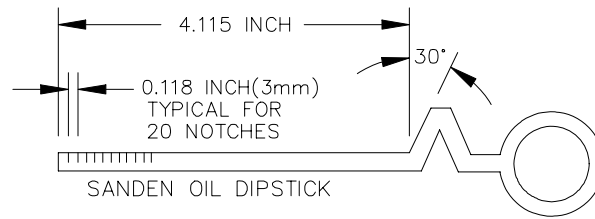

Figure 12 Sanden Oil Dipstick
- e. Remove the dipstick and count the number of notches covered by oil. Refer to Figure 12.